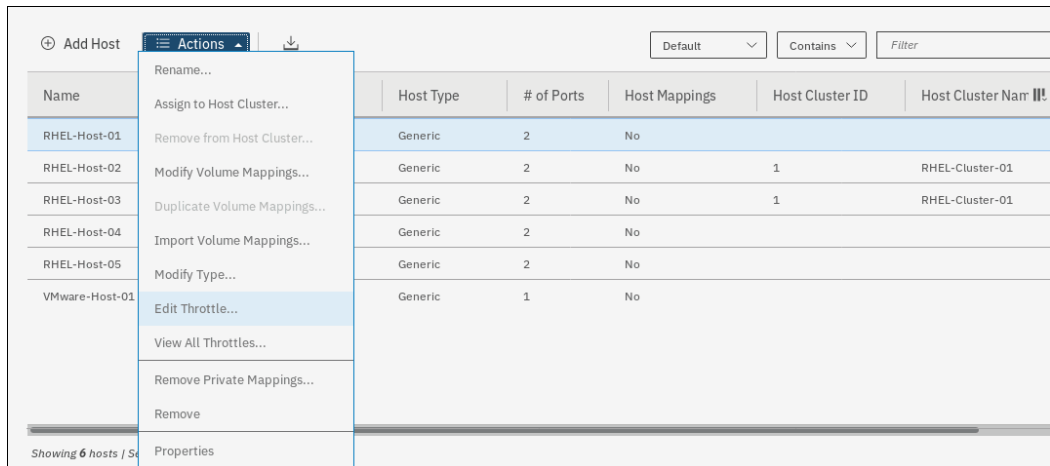

Figure 5-107 Selecting Edit Throttle option
2. Select the wanted host. Click **Actions** → **Edit Throttle**, as shown in Figure 5-107.